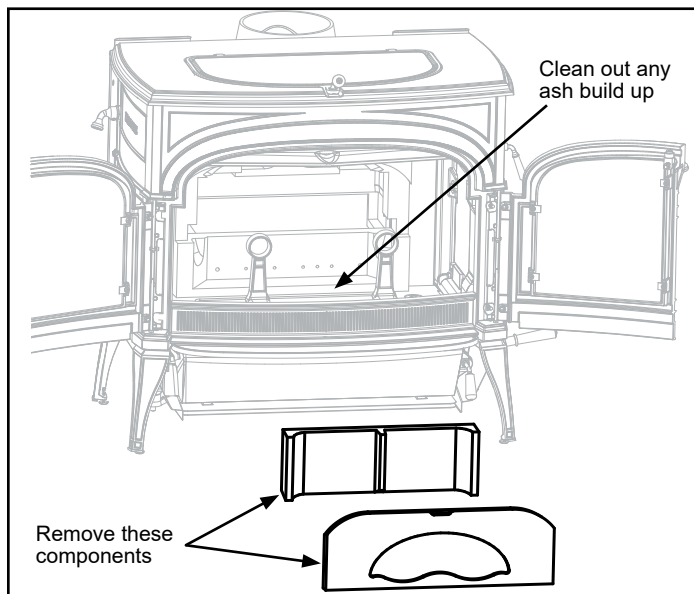

Figure 3.6 - Inspect and clean out ash accumulation behind the combustion system.
- Inspect for and remove ash build-up behind the combustion package. This should be done in conjunction with annual cleaning of the chimney connector. Inspect the passage behind the combustion package (a mirror will be helpful) and vacuum away ash using a flexible vacuum hose inserted in the passage, Figure 3.6.